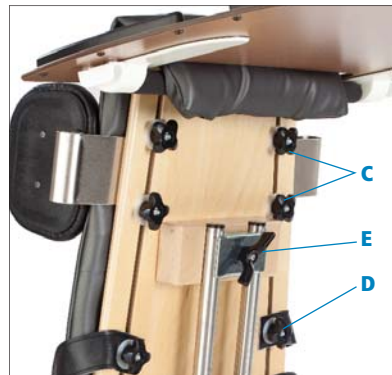

Figure 6b
- Loosen knobs (C) and slide blocks out from under the clamp (see Figure 6b).
- Retighten knobs (see Figure 6b).